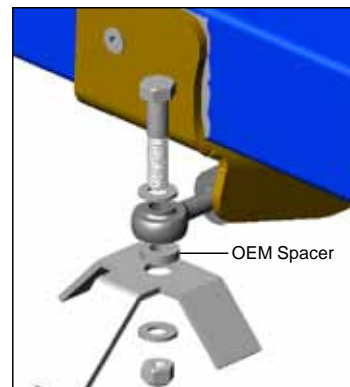

Figure 77
- Secure adjuster rod to engine mounting bracket with the supplied 3/8"-16 x 1-3/4" L Hex Head Bolt, two 3/8" Flat Washers, OEM spacer and one 3/8"-16 NyLoc nut as shown. Figure 77